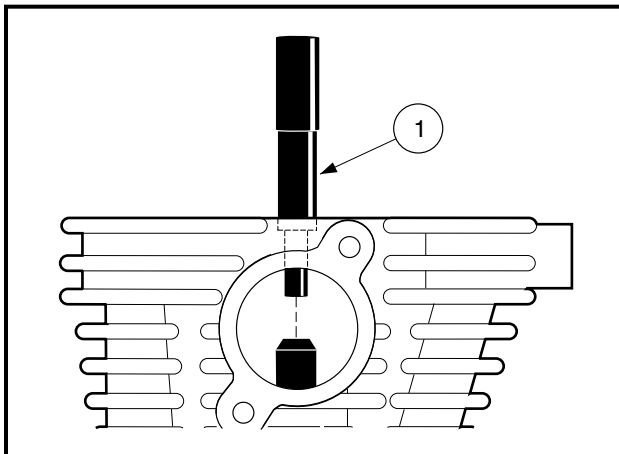

Figure 3-15 Valve Guide Removal
1. With the combustion chamber side of the head facing up, drive the guide out of the head with a valve guide arbor (1) (CCI P/N 101641202) (**Figure 3-15, Page 3-10**).